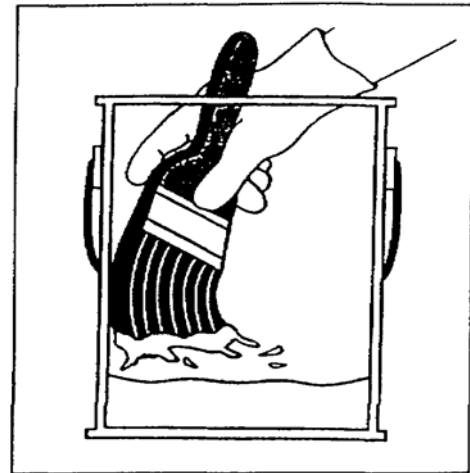

Figure 3-29. Cleaning the bucket sides with a paintbrush
(2) Proceed with the directions at paragraph 3-5b(3) below if you poured the paint directly into paint trays. Pour several inches of thinner into a used paint bucket. If you did not pour the paint directly into the paint trays, then wipe any paint off the bucket sides and bottom (Figure 3-29) with the paintbrush that you used for the paint job. This not only cleans the bucket, but it also begins the paintbrush-cleaning process. When the bucket is clean, pour the used thinner into any paint trays that you plan to clean, and pour fresh thinner into the clean bucket.